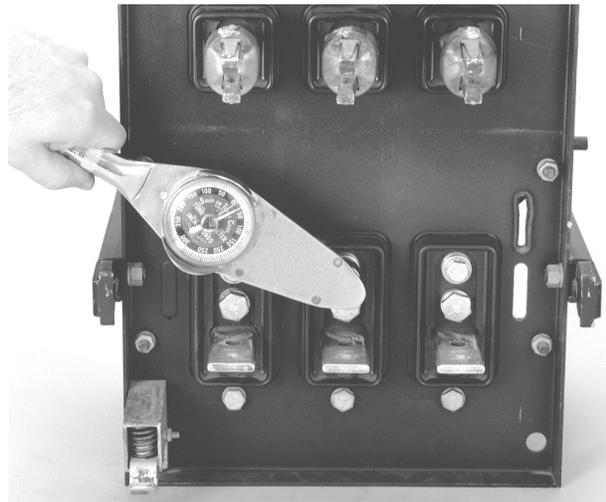

Figure 9. Tightening the CT assembly mounting bolts.
5. Tighten the $1/2$ -13 x $1\frac{1}{2}$ " CT assembly bolts inserted in step 3 to 300 in-lb, as shown in Figure 9. Tighten the $3/8$ -16 x $1\frac{1}{4}$ " bolts inserted in step 4 to 200 in-lb.